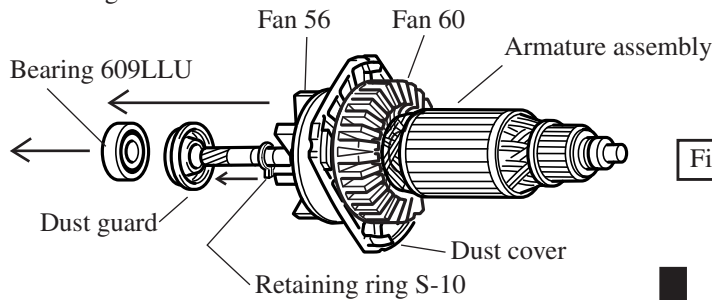

Fig. 7B
- 4) Remove dust guard and ball bearing 609LLU from armature assembly. And then, remove retaining ring S-10 as illustrated in Fig 7B.